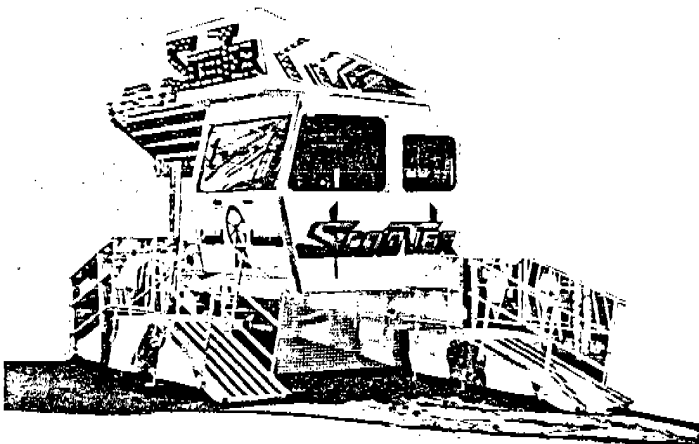

FIGURE 13
5. **INSTALLING PLATFORMS, RAMPS AND RAILINGS:** Install entrance, exit and control house ticket window platforms, ramps and railings with platform support legs and stands, proper length support pipe and safety keys. (See Figure 13).